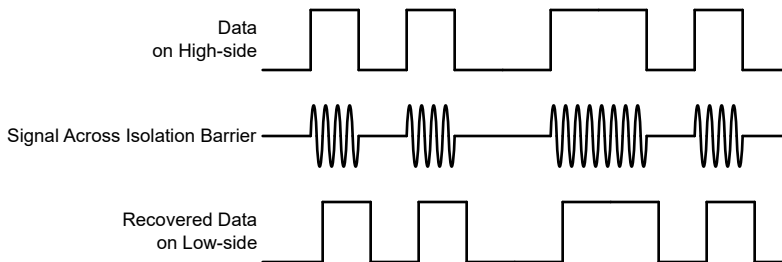

Figure 7-4. OOK-Based Modulation Scheme
The AMC22C11-Q1 uses an on-off keying (OOK) modulation scheme, as shown in Figure 7-4, to transmit the comparator output states across the SiO₂-based isolation barrier. The transmit driver (TX) shown in the Functional Block Diagram transmits an internally-generated, high-frequency carrier across the isolation barrier to represent a digital *one* and does not send a signal to represent a digital *zero*.